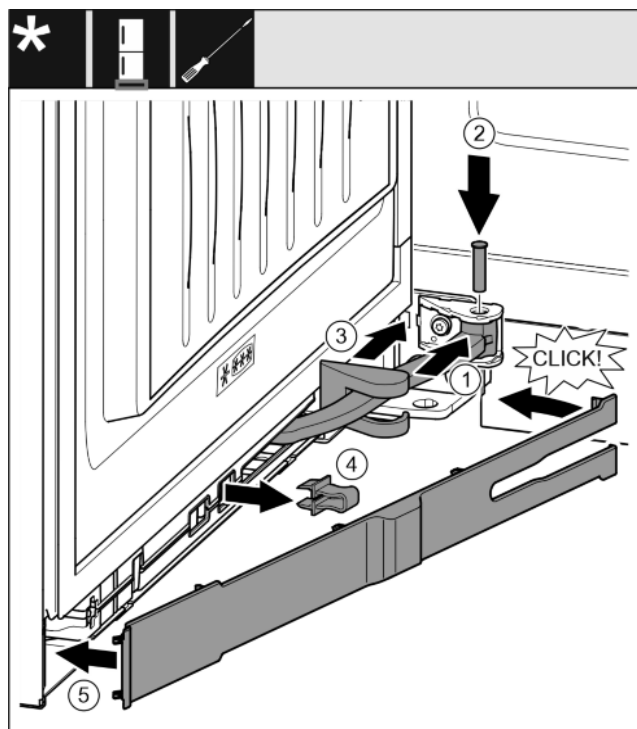

Fig. 37
- ▶ Turn the hinge in the mount. *Fig. 37 (1)*
- ▶ Insert the bolt with a T15 screwdriver in the mount and hinge. Make sure that the latching lug sits correctly in the groove. *Fig. 37 (2)*
- ▶ Push the bearing bracket cover along the hinge and fit it via the mount. *Fig. 37 (3)*
- ▶ Remove the locking device. *Fig. 37 (4)*
- ▶ Position the panel on the handle and swing it in. *Fig. 37 (5)*